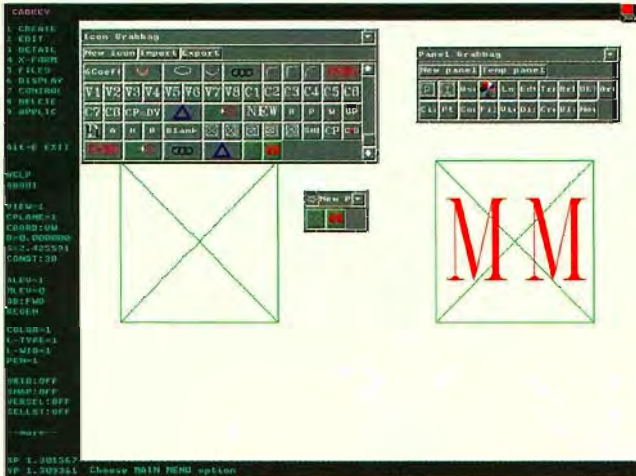

Figure 3
15. Copy the two new icons from the *Icon Grabbag* to the **New File** panel. (If you are unsure about how to copy icons, see the *SoftEngine/CK* manual under Mouse Actions.) See Figure 3.